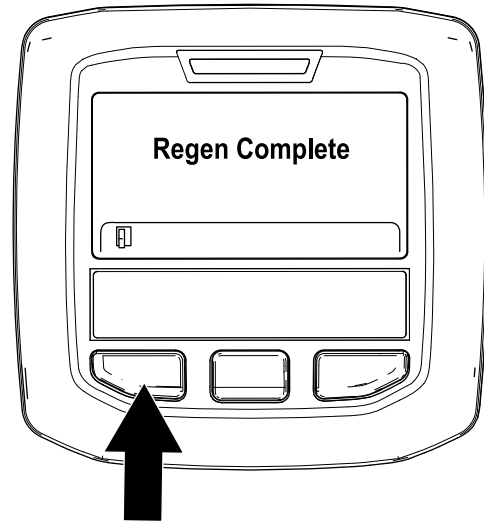

Figure 47
- The parked regeneration is complete when the “Regen Complete” message displays in the InfoCenter. Press the left button to exit to the home screen (Figure 47).